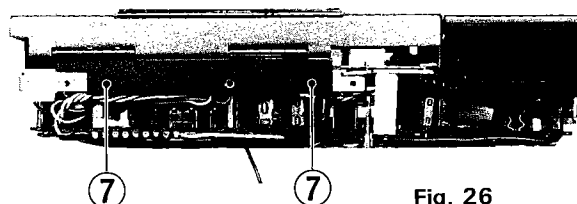

Fig. 26
D. Removal of cassette lid ass'y (Fig. 26)
2. Remove 2 screws ⑦ SSSK1720M.